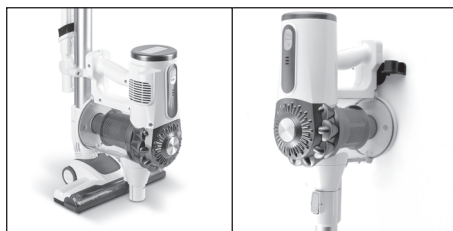

Fig. 4
- The vacuum cleaner can also be hung on the wall mount (23) attached to a wall or by the storage bracket (8) and the storage catch (17) Fig.4.
- The wall mount and the storage bracket (23 and 8) can accommodate the crevice tool (24).